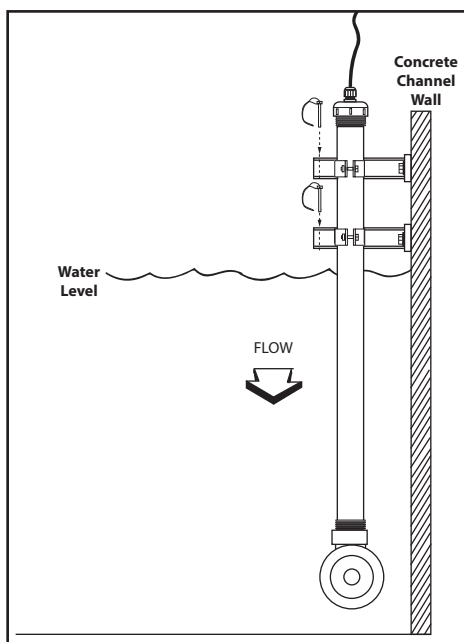

FIG. 29
- H) Remove pins from brackets. See FIG. 29